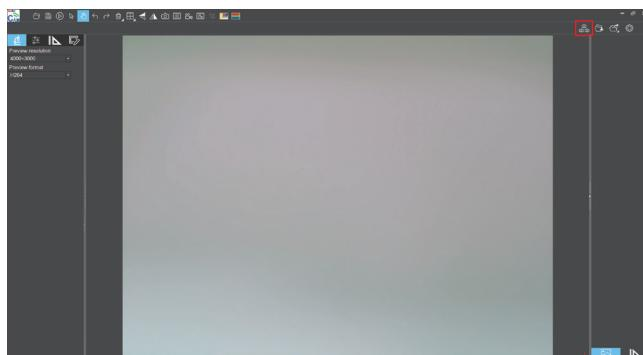
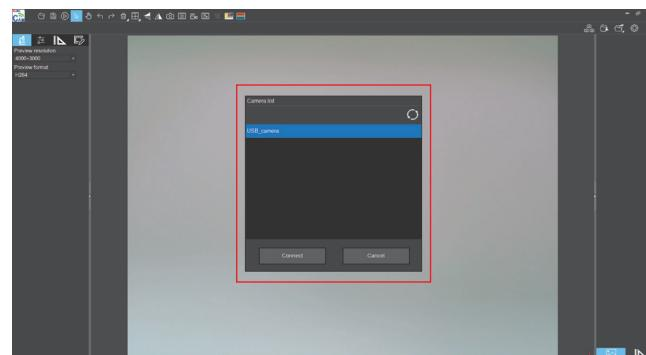

Figure 1
Figure 2
- (1) Connect a Windows PC or laptop that supports 5G WiFi IEEE802.11ac protocol to the same local area network as the camera.
- (2) Install and run the software PrimeCam Pro on the Windows PC or laptop.
- (3) When there is only one network camera in the local area network, the software can automatically get the live image from the camera.
- (4) When there are multiple network cameras in the same local area network, click the icon "  " in the upper right corner of Prime Cam Pro (Figure 1), the list automatically shows all cameras in the current local area network (Figure 2), select a camera as needed, support switching midway at any time.